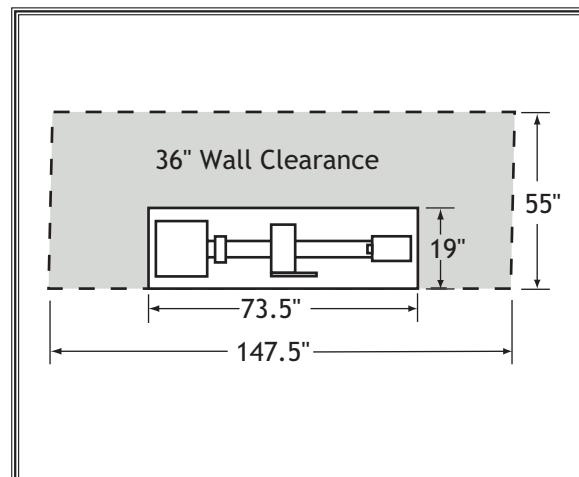

Figure 10. Minimum wall clearances.
- Working Clearances:** Consider existing and anticipated needs, size of material to be processed through the machine, and space for auxiliary stands, work tables or other machinery when establishing a location for your gear head lathe (see Figure 10).